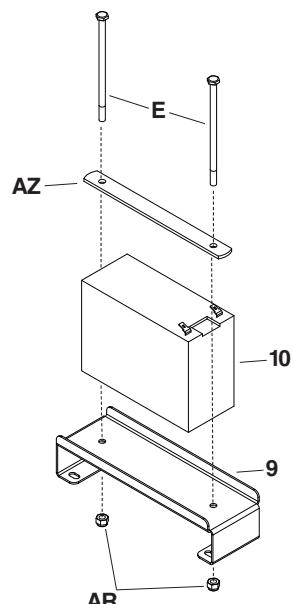

FIGURE 15
- Place the 12V battery (10) on the battery box bracket (9) as shown below. Battery (10) will sit between the two holes on the battery box bracket (9).
- Install two 1/4" x 5" bolts (E) through the battery hold down strap (AZ) and guide the bolts (E) down the sides of the battery (10) and through the battery box bracket (9) holes.
- Secure the bolts (E) from under the battery box bracket (9) with a 1/4" nylock nut (AR) each. Tighten hardware but do not overtighten. See figure 15.